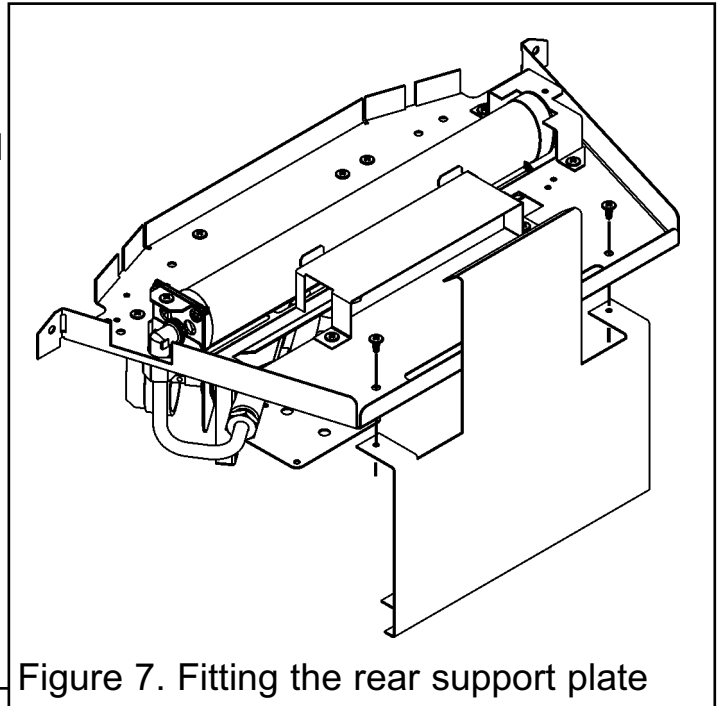

Figure 7. Fitting the rear support plate
6.3.1 Prior to installation of the burner the rear ceramic support bracket must be fitted (See figure 7). Secure with two self-tapping screws but do not over-tighten as these will have to be removed again when installing the burner.